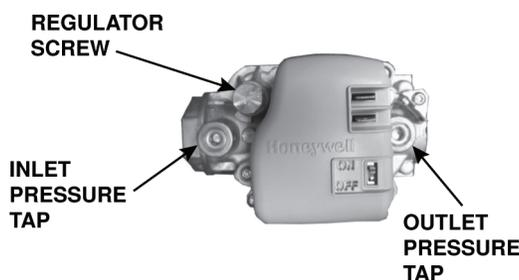

Figure 15. Combination Gas Valve
4. Connect manometer to output pressure tap on valve (see Figure 15).
6. Remove cap from regulator screw (see Figure 15) and adjust pressure in accordance with Table 18 by turning regulator screw IN (clockwise) to increase pressure or OUT (counterclockwise) to decrease pressure.
9. Connect manometer to inlet pressure tap (see Figure 15). While heater is operating, measure inlet pressure, which should be between 5 and 14 IN WC for natural gas or between 11 and 14 IN WC for propane.